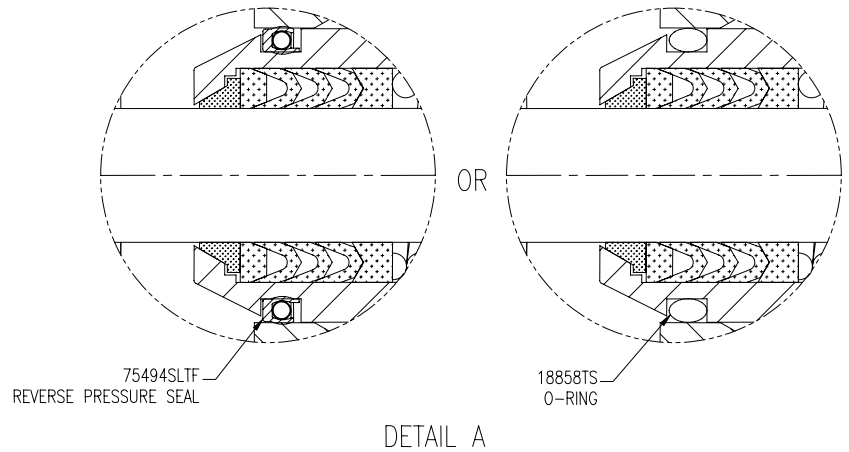

Figure 1
- 5.6 Carefully install the O-ring [18858TS] or Barrel Cap Reverse Pressure Seal [75494SLTF] to the Actuator [2], being sure the u-cup faces the correct way – See figure 1.